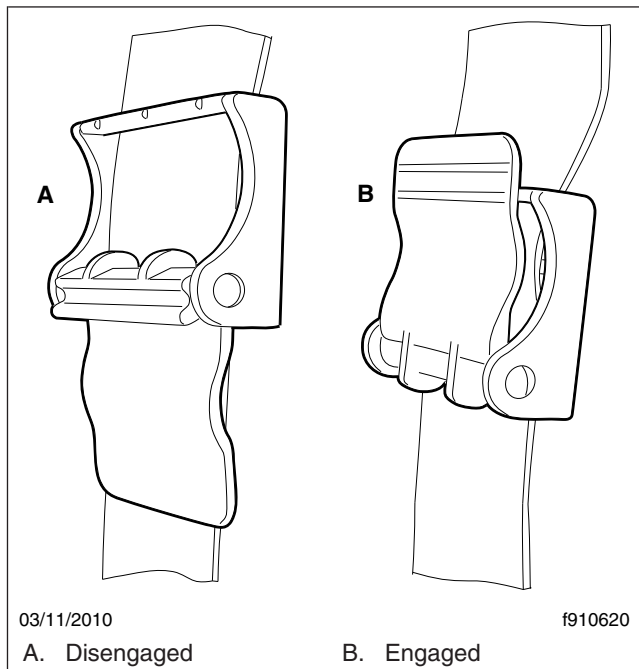
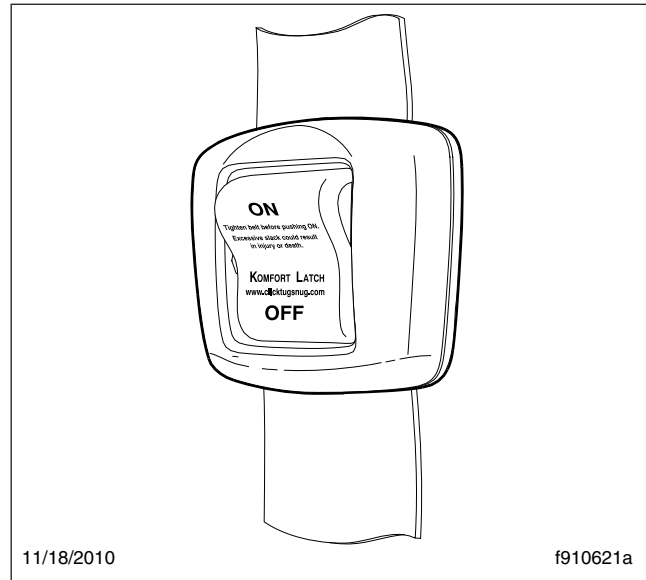

Fig. 6.7, Komfort Latch
Fig. 6.8, Sliding Komfort Latch
When engaged and used properly, the Komfort Latch (Fig. 6.7) and the Sliding Komfort Latch (Fig. 6.8) introduce a small amount of slack into the seat belt, resulting in a more comfortable ride.
push the Sliding Komfort Latch switch to the "ON" position. See Fig. 6.8. To activate the latch lean forward until you hear a click. This will allow for approximately 1 inch (2.5 cm) of slack between your chest and the shoulder harness. Once engaged, the latch will allow you to lean forward about 5 inches (13 cm) without having to reset the latch. Leaning forward more than 5 inches (13 cm) will disengage the Sliding Komfort Latch, requiring it to be reset.
1. Slowly pull the link end of the three-point seat belt out of the retractor and pull it across your lap (from outboard to inboard) far enough to engage the buckle. If the retractor locks too soon, allow the belt to retract slightly, then slowly pull it out again. See **Fig. 6.8**.